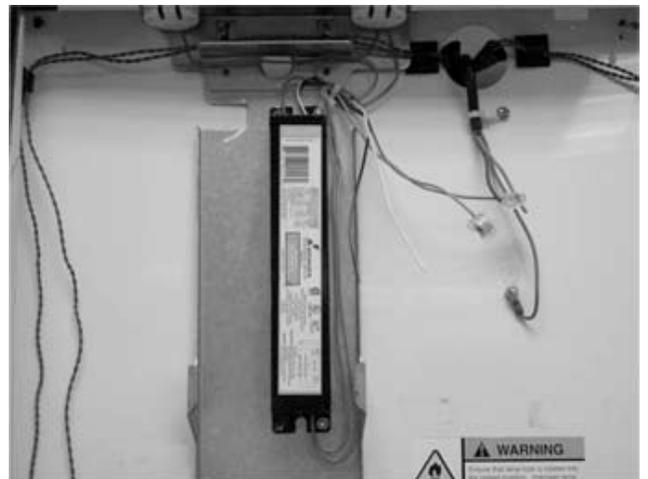
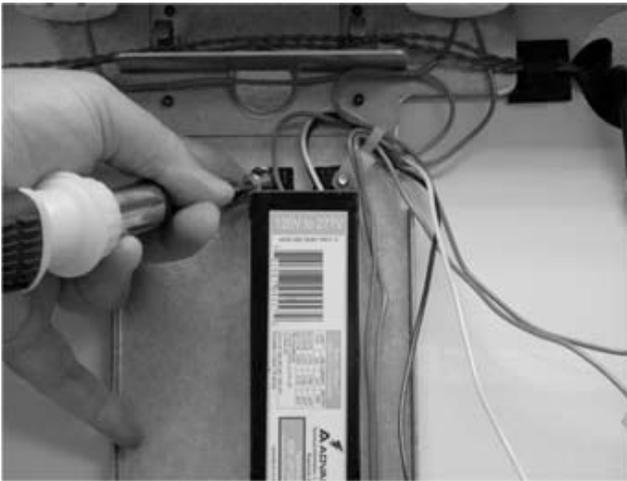
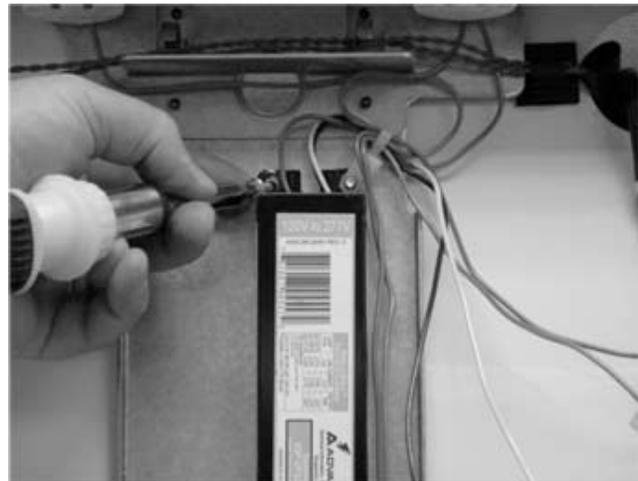

Figure 52.
Figure 53.
Figure 54.
- N. Attach screws and nuts through holes on top and bottom of ballast, see Figure 52, Figure 53 and Figure 54.